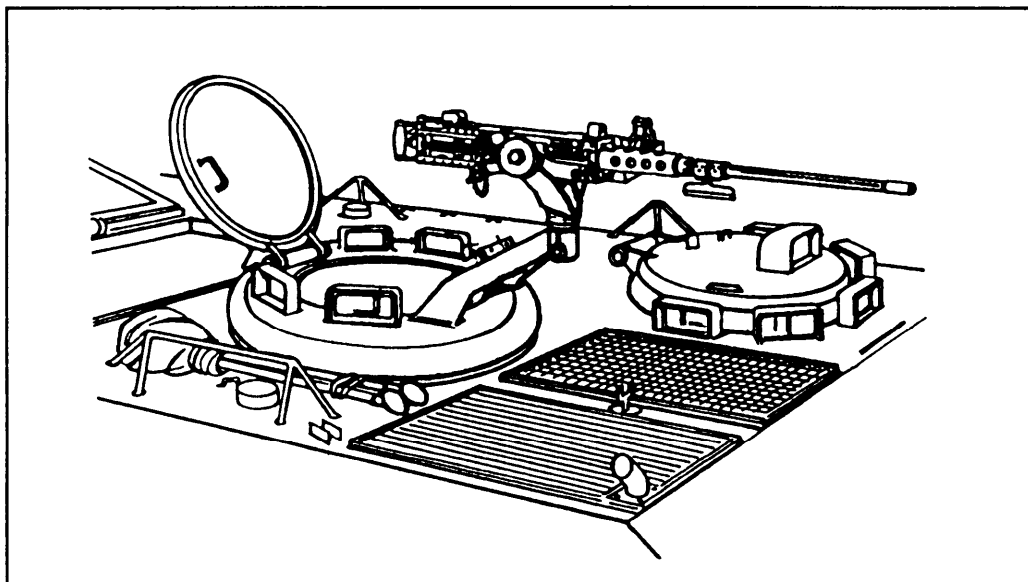

Figure 1-12. Cupola mount.
c. **Armored Vehicle Cupola Mount.** A caliber .50 machine gun and mount are installed in the gun support on the commander's cupola of an M1 13 armored personnel carrier. The machine gun can be traversed 360 degrees, elevated 53 degrees, and depressed 21 degrees maximum (Figure 1-12).